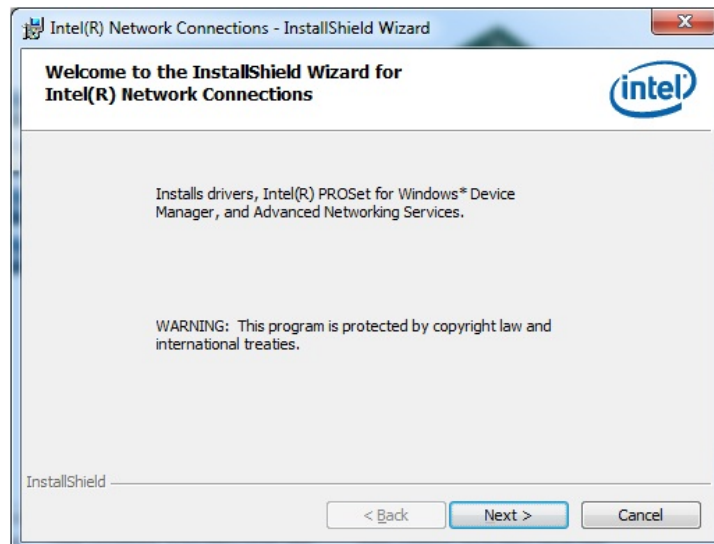

Figure 6-9: LAN Driver Welcome Screen
- Step 7:** The **Welcome** screen in **Figure 6-9** appears.